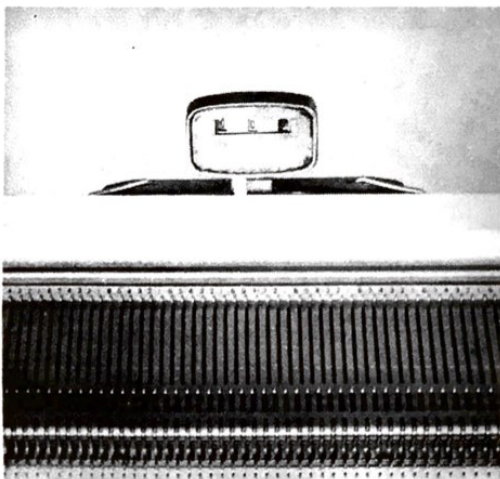
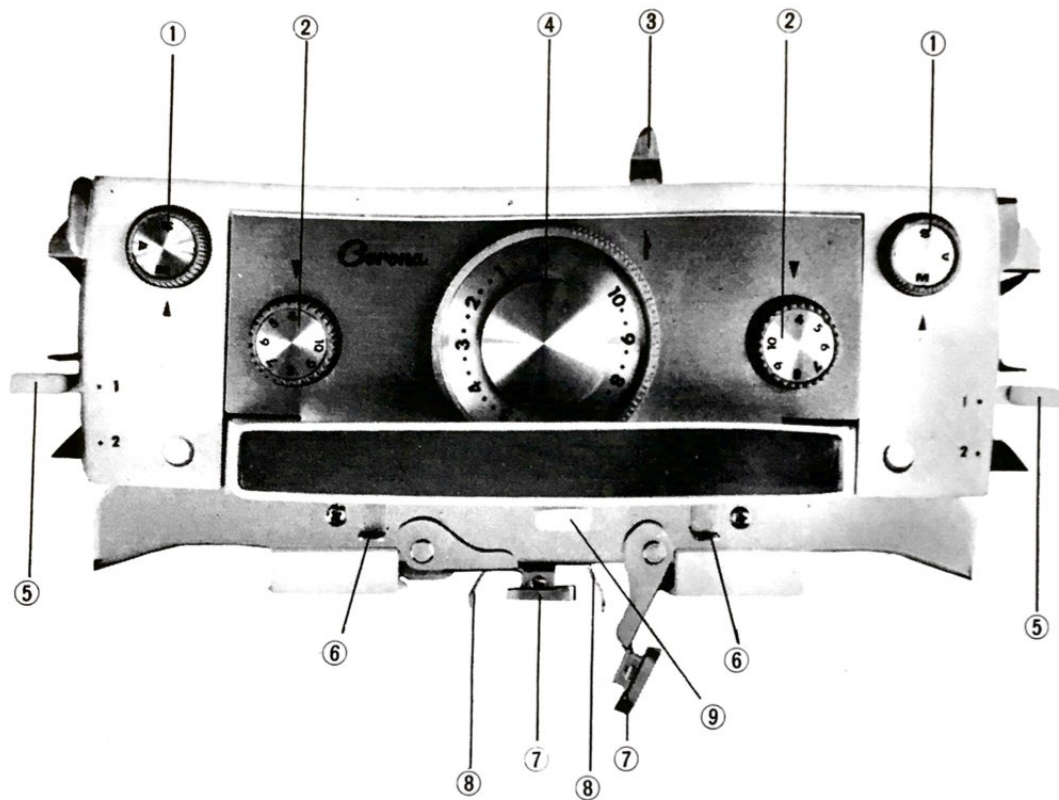

Fig. 4
Fig. 8
1. The Row Counter automatically counts the rows as the carriage is moved from side to side with the Row Counter Trip Arm extended. (Figs. 4&5)
## 1. PATTERN CONTROL KNOBS (MAS Knobs) — (Fig. 8—1)
## 2. NEEDLE SELECTION CONTROL KNOBS (Fig. 8—2)
These Control Knobs are marked with figures 4, 5, 6, 7, 8, 9 and 10, and **to turn, first depress the knob.** Selection of needles is made with the forefinger by pushing back the required number of needles from Working Position (C) into Position (B). When using these knobs the Pattern Control Knobs (MAS Knobs)—(Fig. 8—1) must always be set at "A".